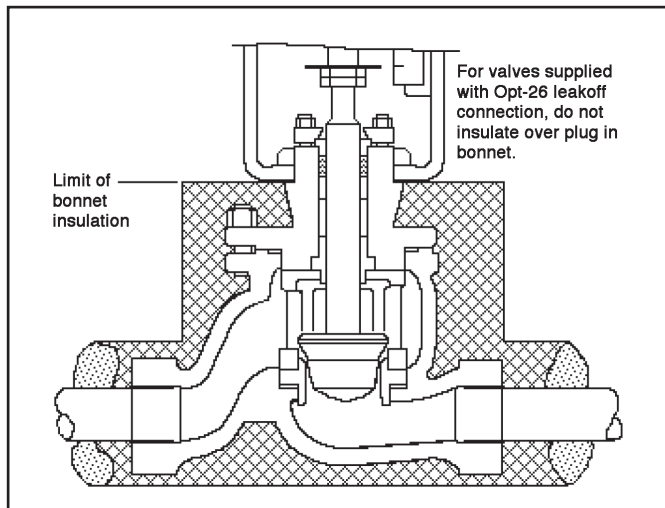

Figure 2: Body Insulation
11. Insulation may be applied as indicated in Figure 2. Drainage away from the packing area must be ensured when fully installed, sealed and lagged for outdoors installation.